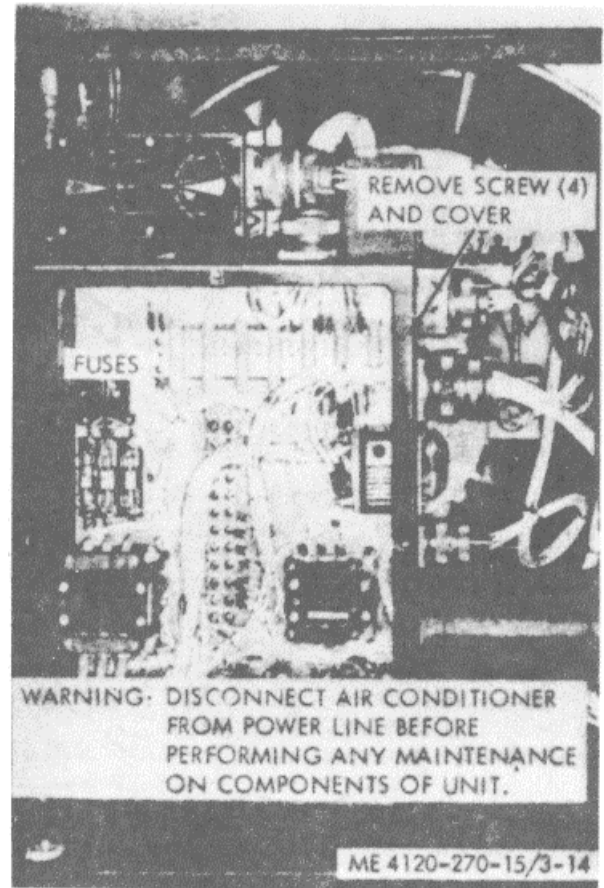

Figure 3-14. Fuse replacement.
b. Maintenance Procedure. Refer to figure 3-14 and perform fuse replacement as required.